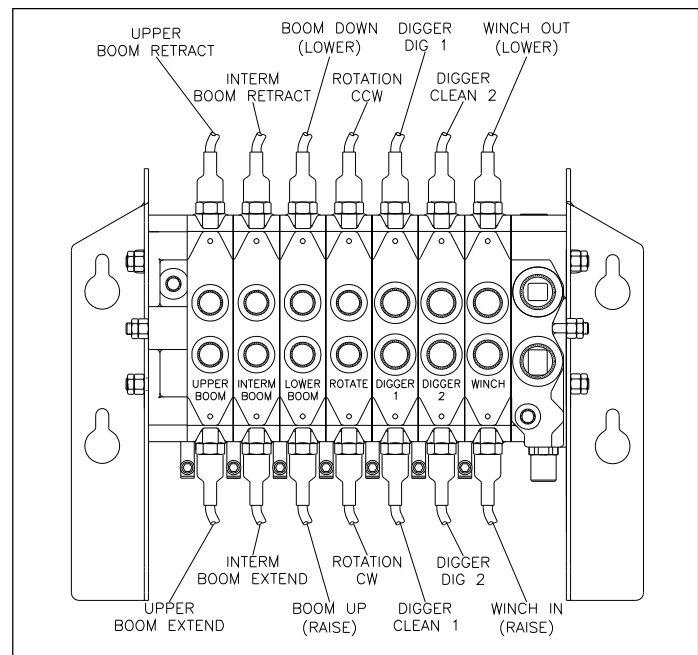

Figure 5 — Pulsar Function Identification
1. Review the type(s) of pulsars installed on the lower control valve as identified in Section 1, Step 3. If the pulsars are not all the same type, make note of which function(s) have standard pulsars and which function(s) have pressure feedback pulsars (refer to Figure 5).